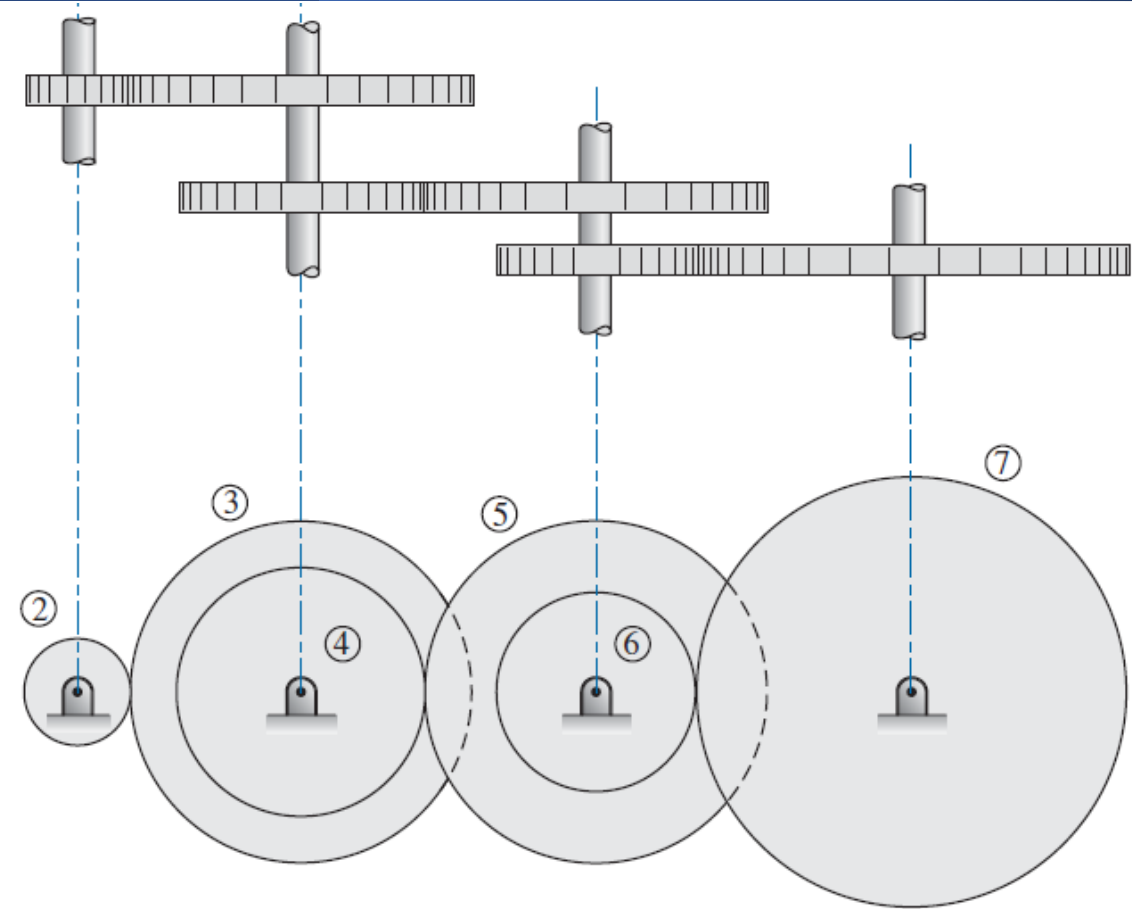

Figure 8-16 Gear Train.
- **Example 8-1.** A gear train is shown in Figure 8-16 in previous slide. Determine the rotational velocity of gear 7 as gear 2 drives at 1800 rpm CCW. Also determine the distance between the shafts that carry gears 2 and 7.